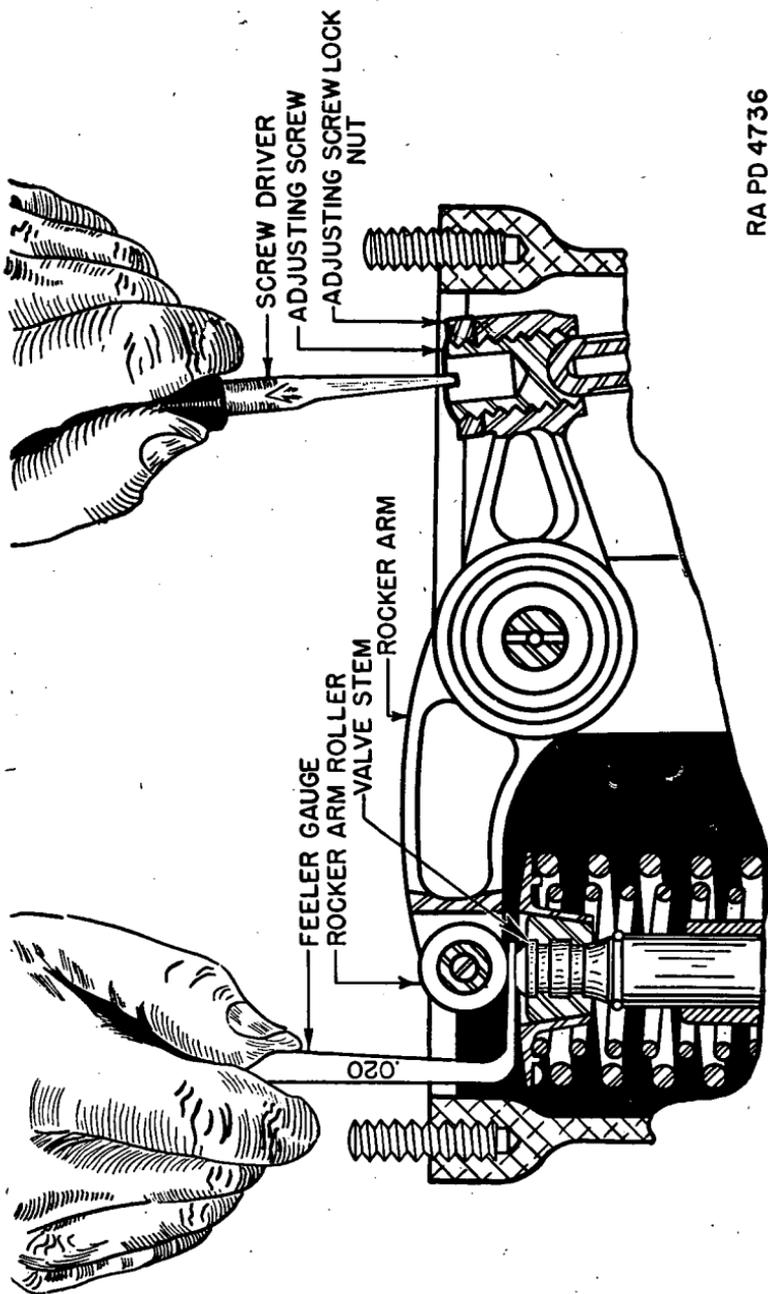

FIGURE 47.—Adjusting valve clearance, Guiberson engine.
(e) Loosen valve clearance adjusting screw lock nut (fig. 47).
(5) *Valve clearance adjustment* (fig. 47).—For push rod removal perform steps (1) (a), (b), (c), and (d) above.
(a) Using a screw driver having the correct bit size ($\frac{3}{32}$ by $\frac{1}{2}$ inch), turn the adjusting screw until the correct clearance is obtained (fig. 47).